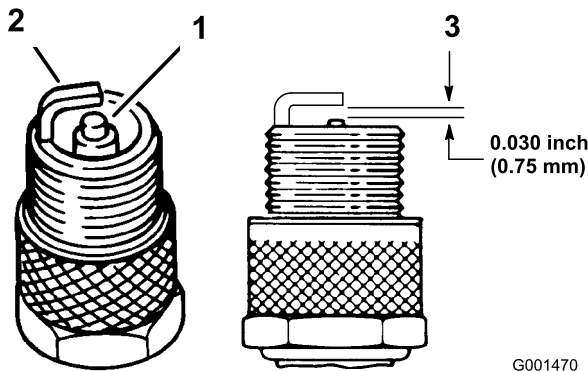

Figure 25
1. Look at the center of the spark plugs (Figure 25). If you see light brown or gray on the insulator, the engine is operating properly. A black coating on the insulator usually means that the air cleaner is dirty.
2. Check the gap between the center and side electrodes (Figure 25). Bend the side electrode (Figure 25) if the gap is not correct.
3. Connect the wires to the spark plugs (Figure 25).